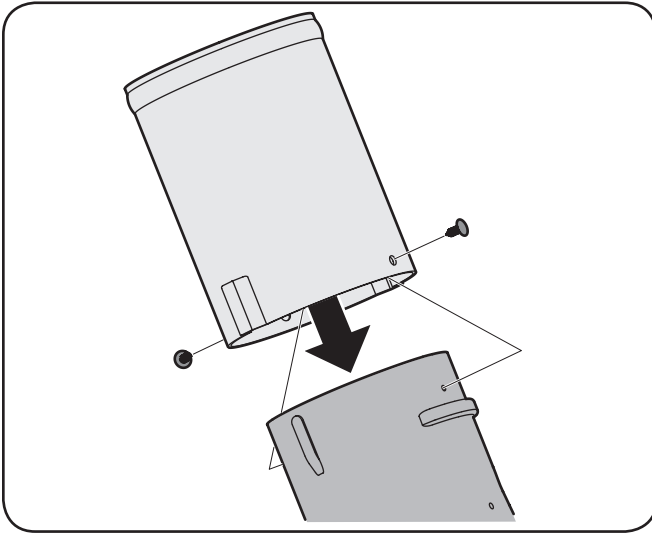

Figure 4-25
13. Install the chute adapter onto the chute elbow by lining up the tabs and sliding the adapter over the chute elbow, as in Figure 4-25. Secure the chute adapter by installing the two ratchet clips included in the hardware pack in the holes provided.